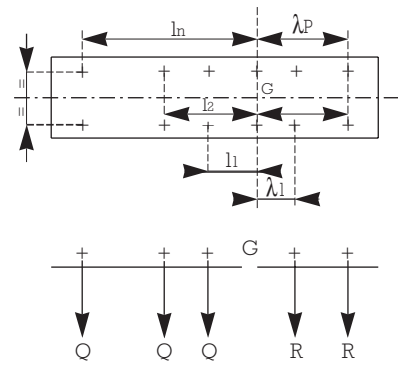

Fig. 15
• **More than four mounting points (fig. 15)**